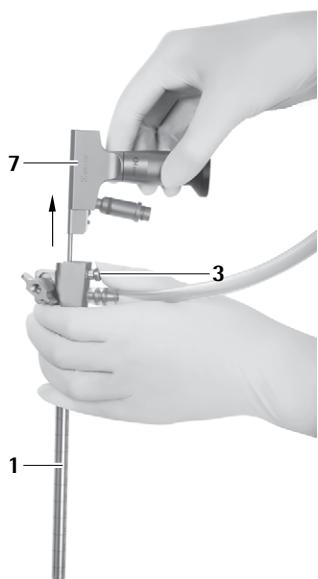

Fig. 11
- Press the release button 3 and remove the endoscope 5 from the MINOP InVent trocar 1, see Fig. 11.